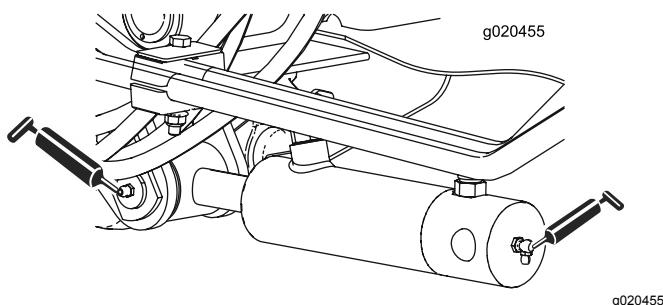

Figure 63
- 2 (each side) lift-arm-cylinder bushings (Figure 63)